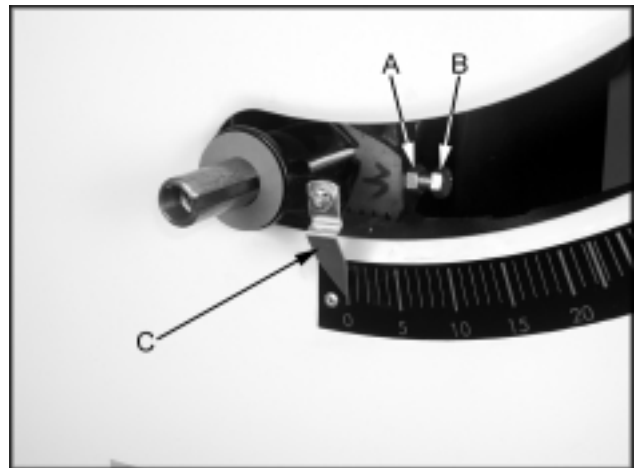

Fig. 17
8. If the blade is not 45 degrees, remove the raising and lowering handle. Loosen lock nut (A, Fig. 17) and turn adjusting stop screw (B, Fig. 17) on the front trunnion in, or out. The adjusting stop screw should stop against the front trunnion bracket when the blade is 45° to the table.
9. Check the accuracy of the pointer (C, Fig. 17) on the angle scale and adjust, if necessary.